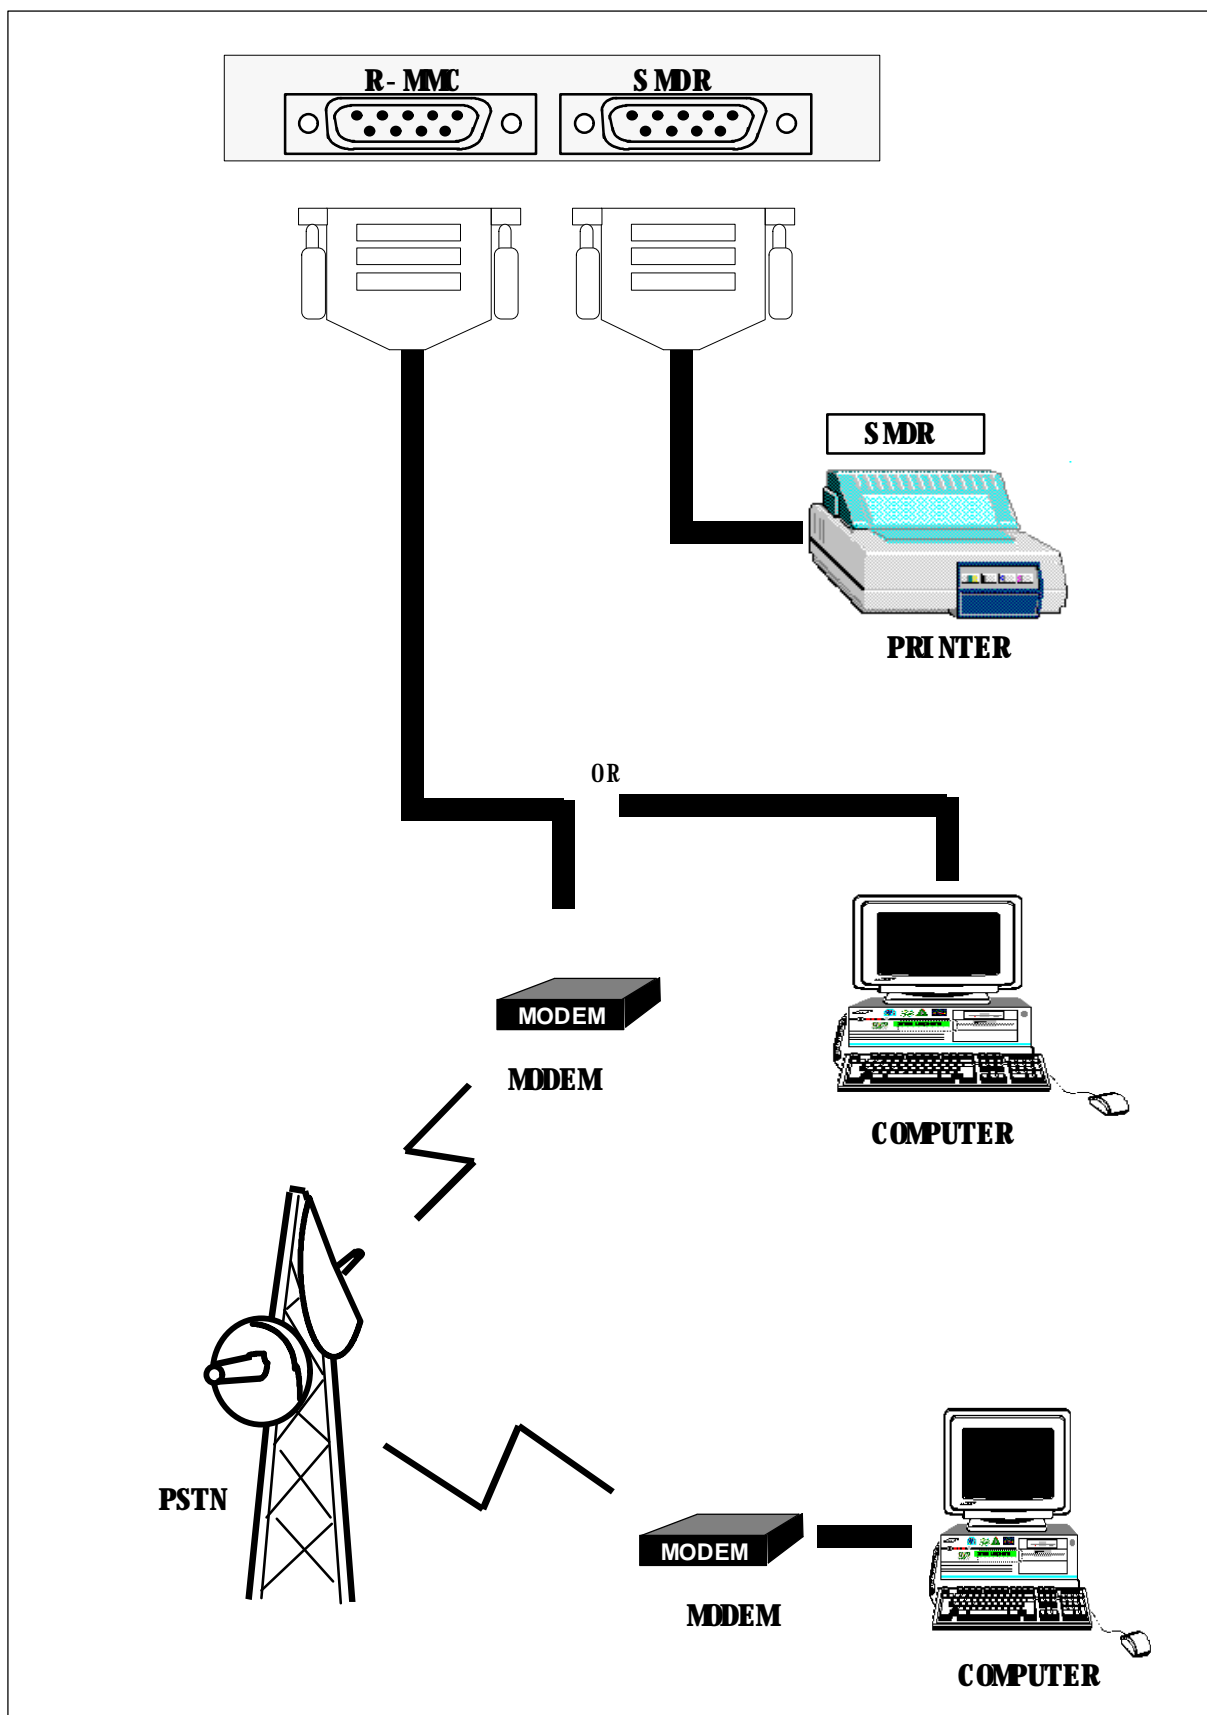

Figure 2-23 Connecting For SMDR / Remote Programming
The NX-SMDR/R-MMC card provides two (2) serial I/O ports: R-MMC and SMDR. The port marked 'R-MMC' is used for remote programming and the port marked 'SMDR' is used for SMDR (Figure 2-23). Port parameters can be set using MMC 80 (see Programming section).